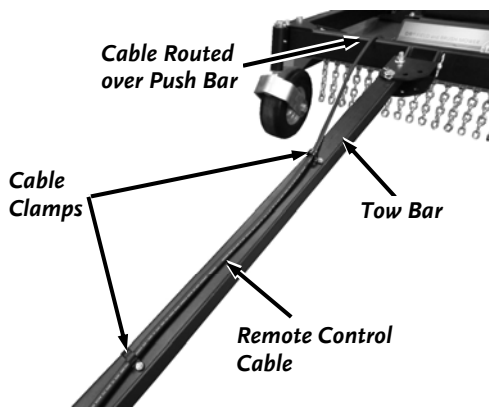

Figure 7
3. Position the Remote Control Cable over the Push Bar and insert the Connector through the Cable Clamps on the Tow Bar (**Figure 7**).